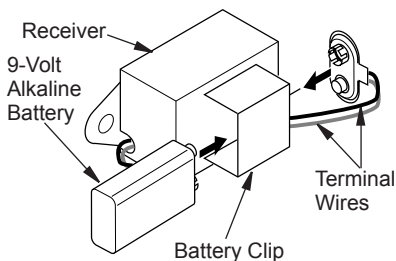

Figure 44 - Attaching Alkaline Battery to Receiver
3. Attach the terminal wires to the battery. (see Figure 44).